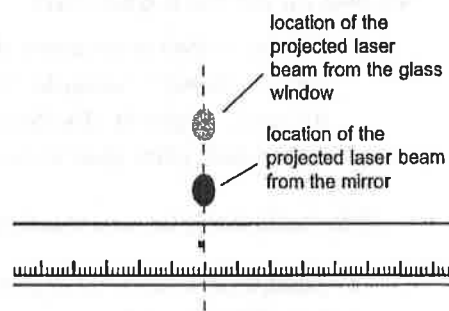

Figure 9
3. Rotationally align the case by rotating it until the laser beam projected from the glass window is centered on the metric scale (Figure 9).
- c. Observe the laser beam reflected from the mirror. In the optimally aligned system, the equilibrium point of the oscillations of the beam reflected from the mirror will be vertically aligned below the beam reflected from the glass surface of the case (Figure 9).